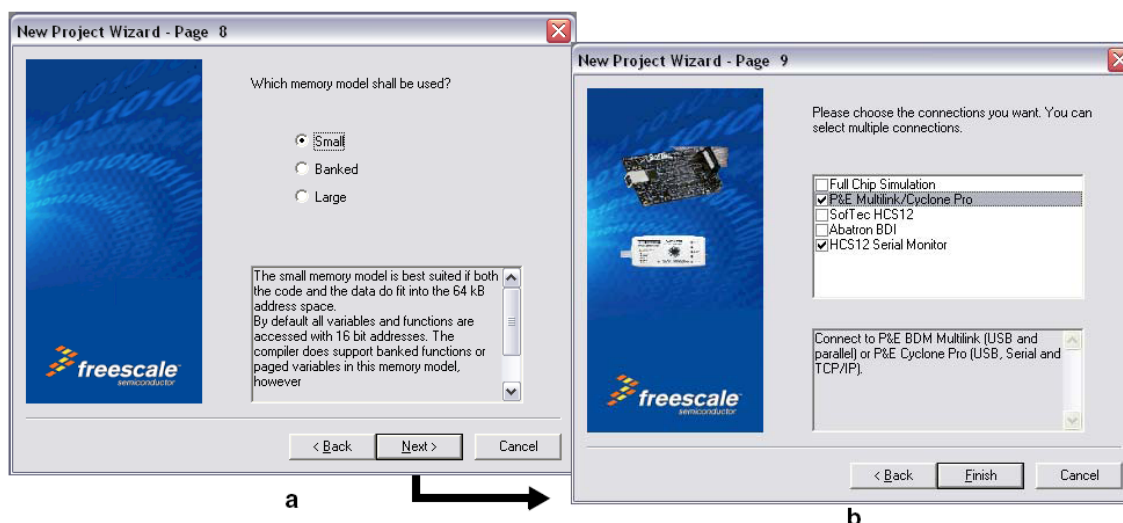

Figure 13. CodeWarrior New Project Wizard Page 8 and Page 9
- p) Click Next — page 8 of the new project wizard will appear (see Figure 13).
- r) Click Next — page 9 of the new project wizard will appear (see Figure 13)